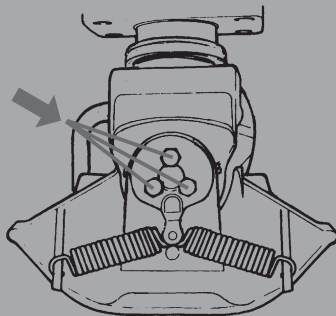

fig. 9
The maximum vertical play of the coupling pin may be **4 mm** at the most (see fig. 9).
- Loosen the fixing bolts situated in the base plate (see fig. 9)